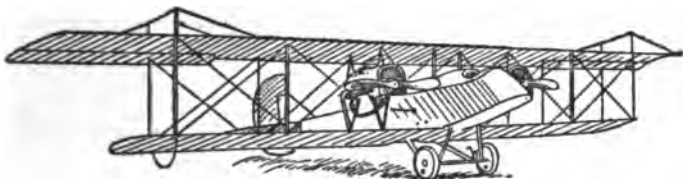
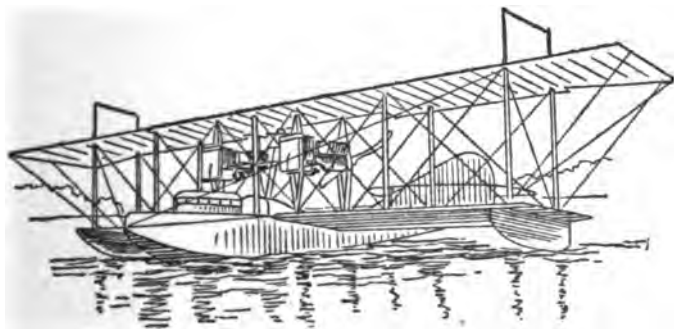

FIG. 15.—THE CURTISS TWIN MILITARY TRACTOR
FIG. 16.—A PUSHER TWIN BIPLANE FLYING BOAT OF THE TRANSATLANTIC TYPE
Again both of these types can be divided into two classes, namely, (1) those with propellers in front, or *tractors* as they are called, see Fig. 15, and (2) those with propellers set back of the main planes or *pushers* as they are known, as shown in Fig. 16.
Fig. 16, and (3) those that are fitted with *hulls* for skimming over and soaring above the water, or *airboats*, or *flying boats*, see Fig. 18, as they are now known.